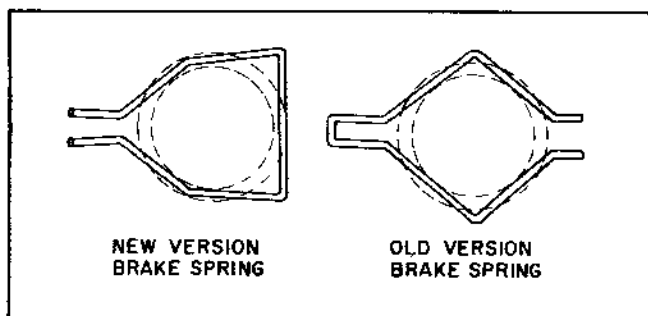

Figure 1-16
P. THE SIDE MOUNTED STARTER - The essential difference between starter versions is the mounting brackets and mounting hole locations. The two versions of the Brake Spring are interchangeable. See Fig. 1-16 for a comparison.